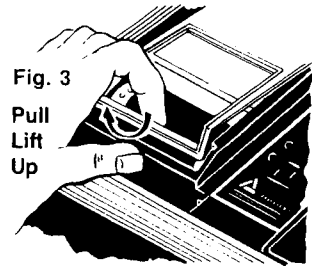

Fig. 3
- Remove top cover-pull bottom ledge of frame toward you and lift. See fig. 3 or 4.
2. Remove top cover. See fig. 3.
2. Remove top cover. See fig. 3 or 4. Adjust zero setting with power off and recorder not connected to any voltage or current source. (See Zero Adjusting).